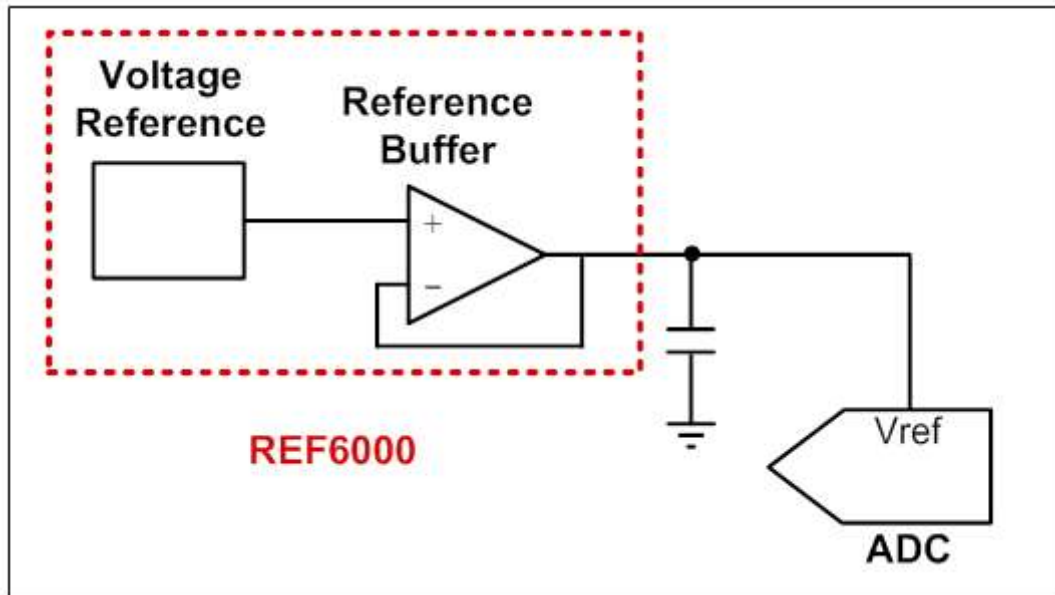

Figure 5: Voltage reference circuit using an integrated voltage reference and reference buffer
- with the voltage reference. Figure 5 shows this integration in a simplified data-acquisition system. The internal buffer is optimized to respond well to the types of transients generated on the reference pin of a data converter and is also optimized for DC performance. In addition, this combination reduces circuit board area, as it combines the voltage reference and reference buffer.